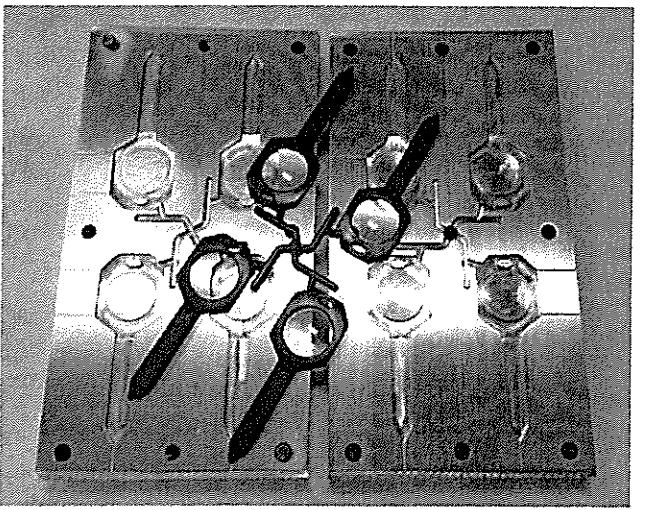

Figure Q2 (b) / Gambarajah S2 (b)
- b) Figure Q2 (b) shows the product from the injection moulding process. Which process would be suitable for making the product? With appropriate sketches, briefly describe the process.